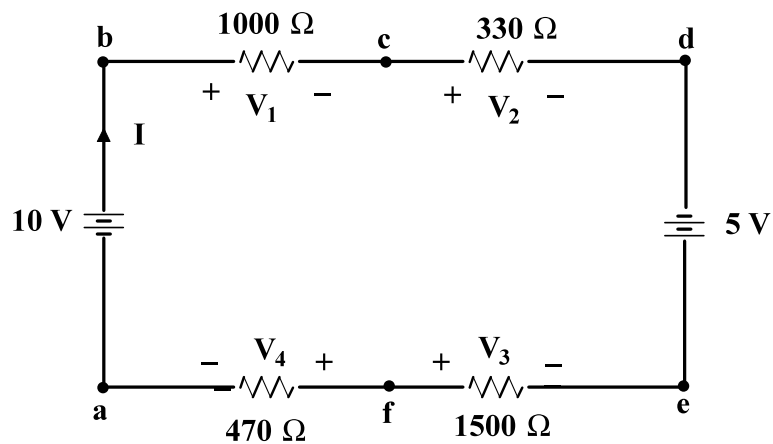

Figure 1.15: Circuit for Laboratory Exercises, Part 2LE .
- (a) Connect the circuit shown in Figure 1.15. Measure and record the current I .